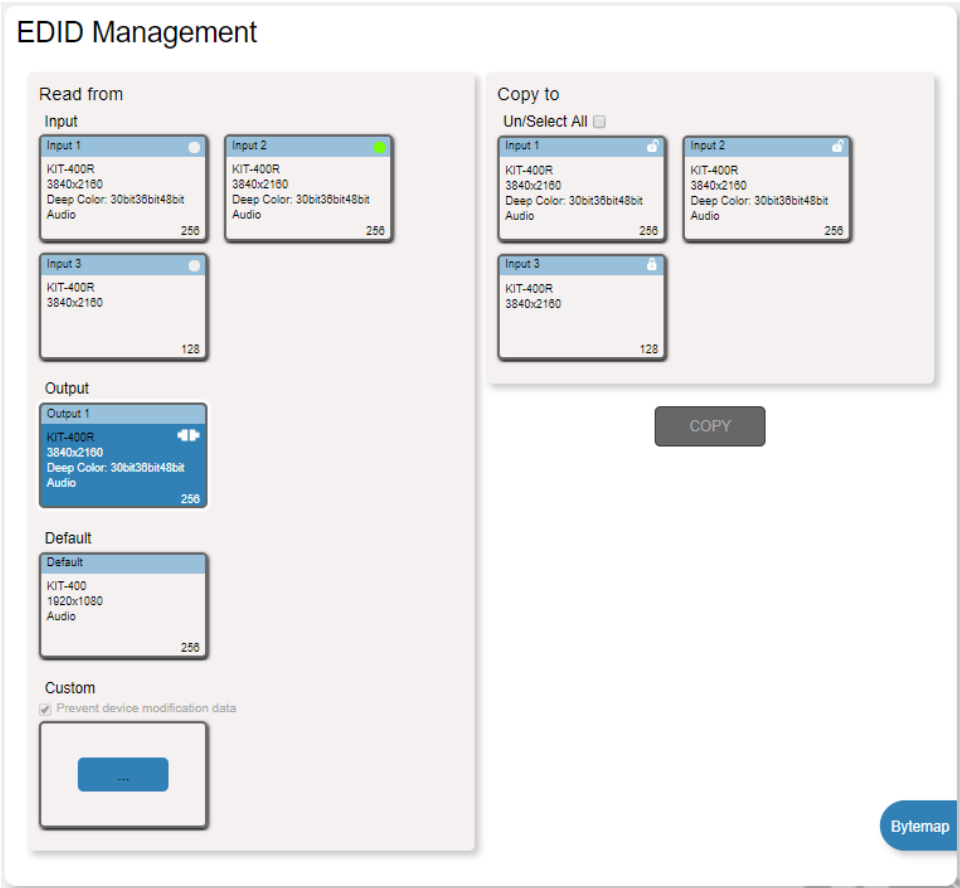

Figure 44: EDID Management Page
- 1. In the Navigation pane, click **EDID Management**. The EDID Management page appears (see Figure 44).
1. In the Navigation pane, click **EDID**. The EDID Management page appears (see Figure 44).